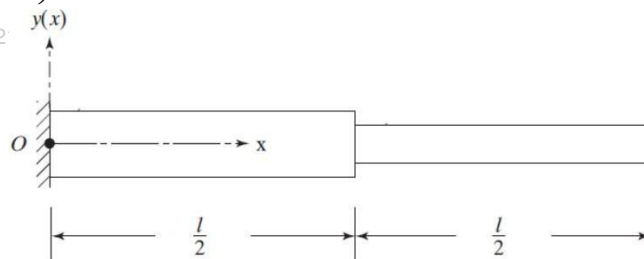

Figure 3
Q4 Figure 3 shows a steel stepped cantilever beam. The steps have square cross sections of size 10 cm X 10 cm, and 5 cm X 5 cm each with a length of 125 cm each. Assuming the Young's modulus as \$E= 215\$ GPa and the density \$8000\$ kg/m³, for the material of the beam, determine the fundamental natural frequency of bending vibration of the beam using Rayleigh's method. Assume the deflection of the beam as (16)